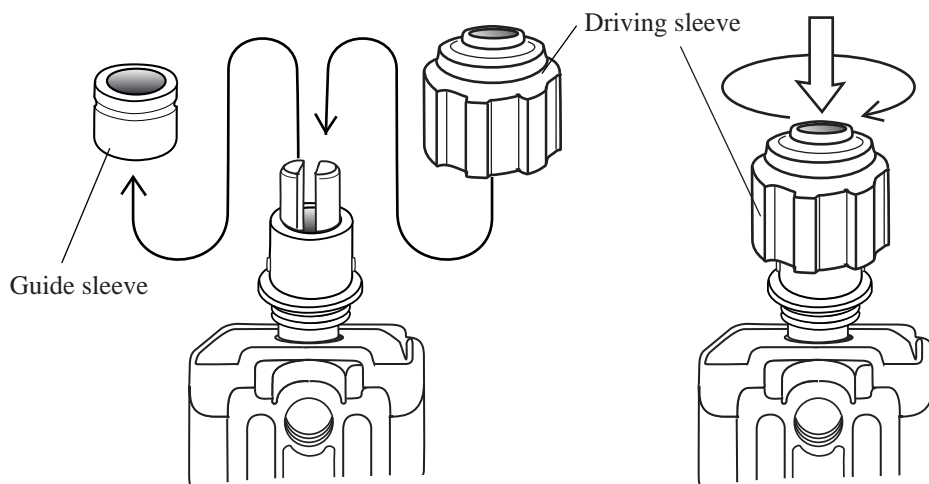

Fig. 10
4. Remove guide sleeve and, push the driving sleeve toward the gear housing side turning it clockwise. Then sleeve can be brought to the locked position with pin 3 (long). See Fig. 10 and Fig. 10A.